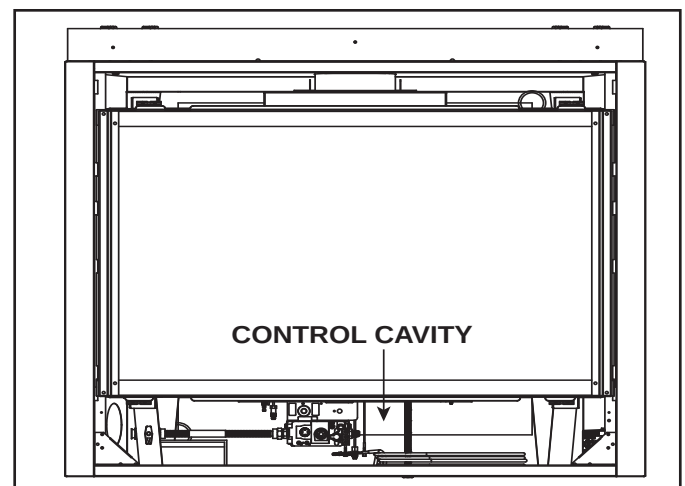

Figure 3.5 Control Cavity Location - Generic Fireplace Show
The IntelliFire Touch™ intermittent pilot ignition system comes with a battery backup system that enables the system to operate in a power outage. The system offers seamless transition from household AC power to battery backup. A factory-installed battery pack is located in the control cavity of the appliance. See Figure 3.5. Battery longevity and performance will be affected by long term exposure to the service temperatures of this appliance.
1. Access the control cavity of the appliance. See Figure 3.5 for location. The decorative barrier front and front refractory may need to be removed.
2. Locate the battery tray and insert four safety certified 1.5A AA cell batteries. Battery polarity must be correct or module damage will occur. See Figure 3.5. A complete wiring diagram is included in the Electrical section of the appliance Installation Manual.